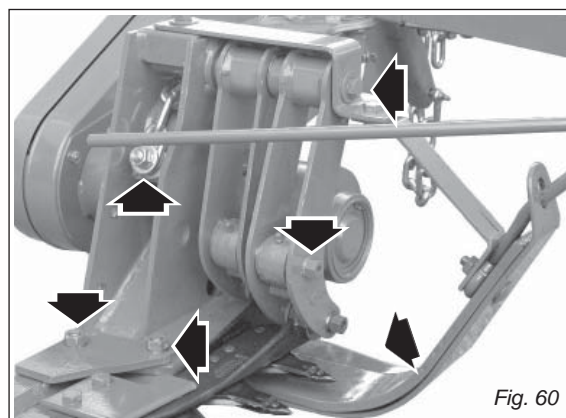

Fig. 60
- During the first working hours, check that the screws are tight (Fig. 60).
- Check the tightness of the connecting rod bolts regularly (Fig. 60).